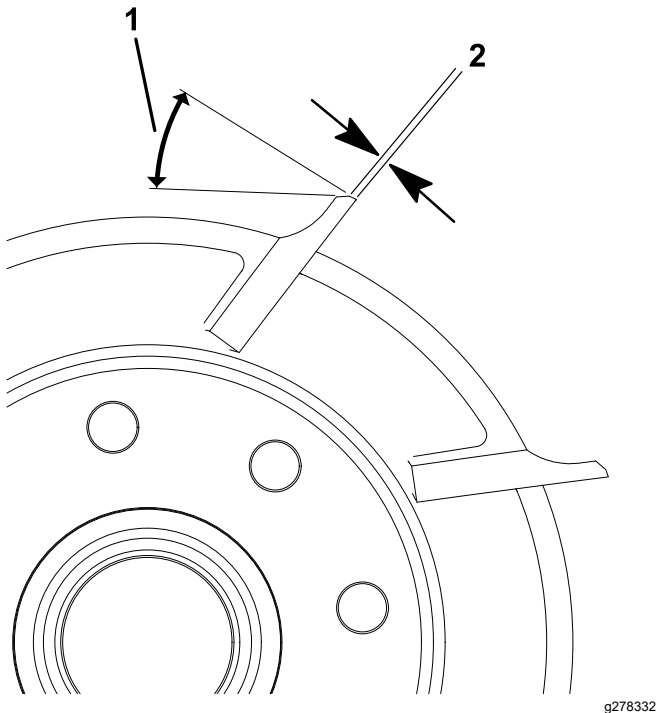

Figure 23
- Apply a 30° relief grind on all reel blades until the land width is 0.8 mm (0.03 inch) wide (Figure 23).